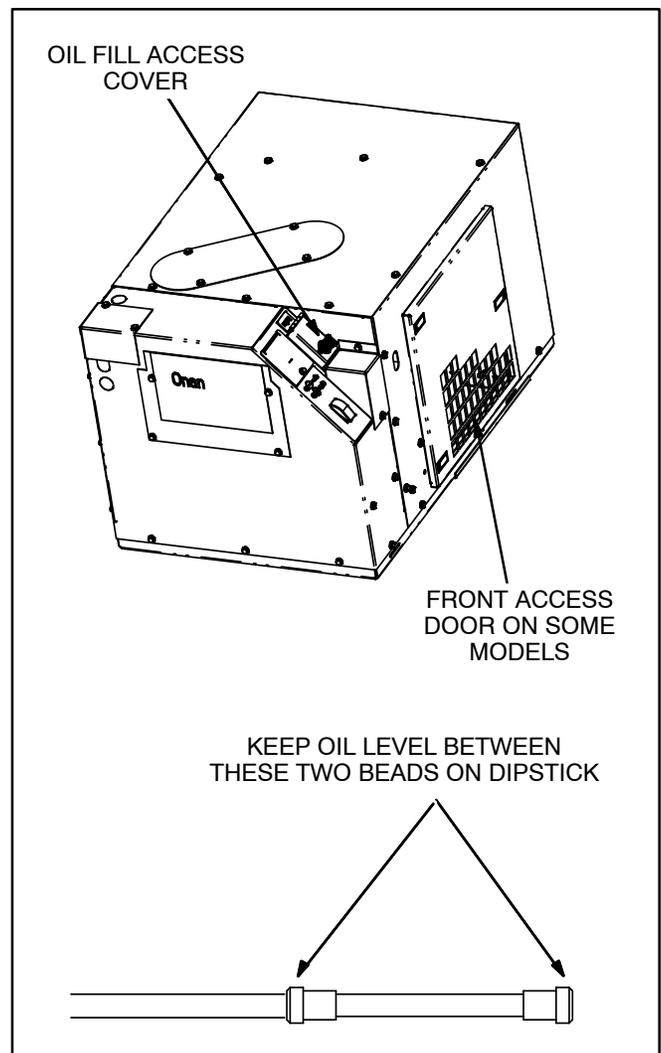
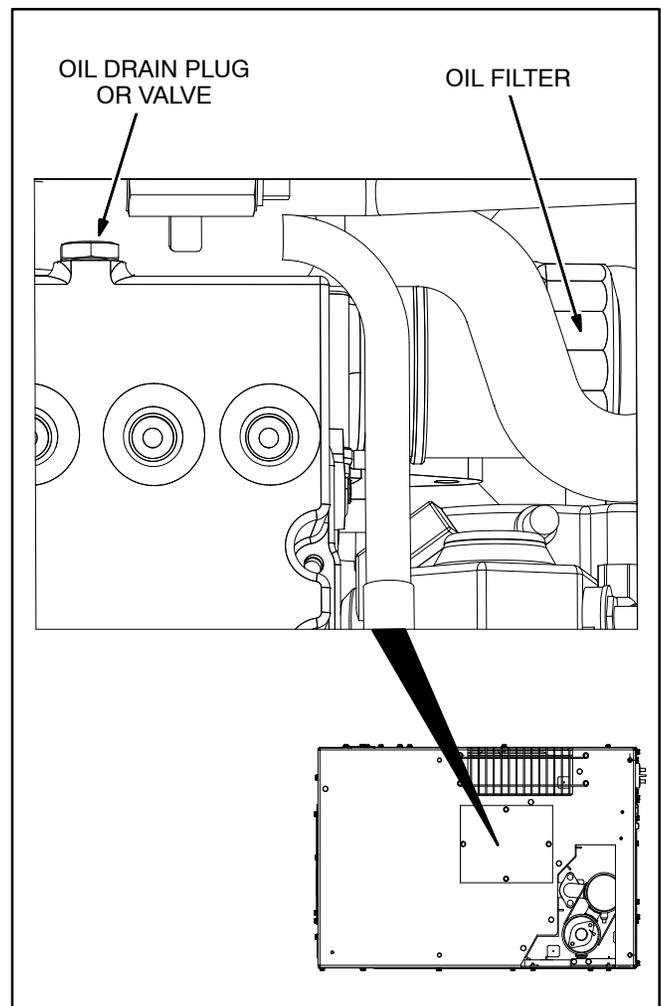
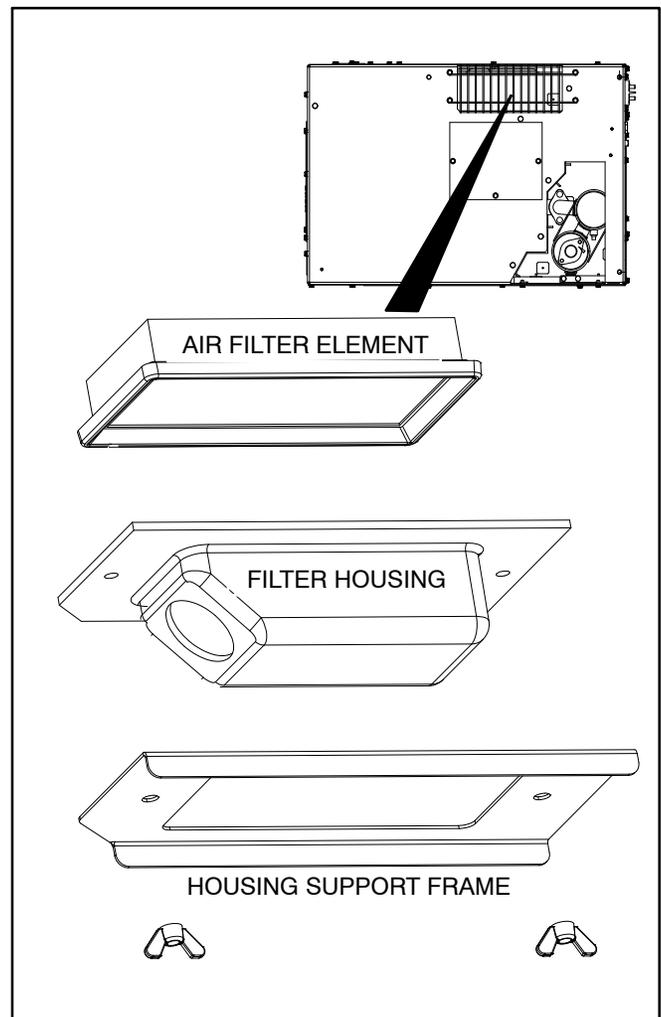
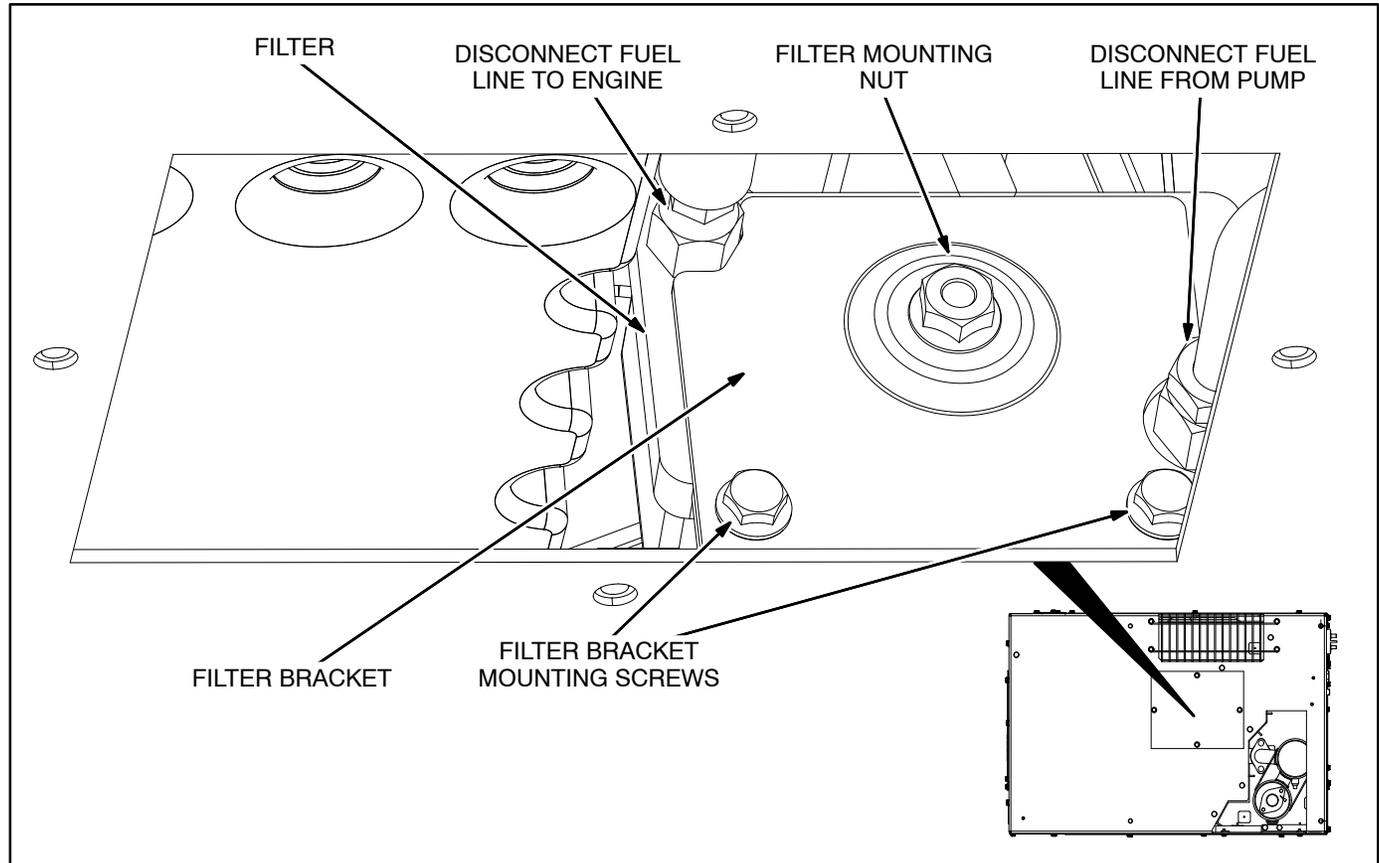

FIGURE 3-1. OIL FILL NECK AND DIPSTICK
FIGURE 3-2. OIL DRAIN PLUG AND OIL FILTER
FIGURE 3-3. AIR FILTER
FIGURE 3-5. FUEL FILTER
1. Open the Oil Fill Access Cover to locate the dipstick and oil fill location (Figure 3-1). Twist the dipstick cap approximately 1/4 turn counter-clockwise and pull to remove the dipstick from the Oil Fill Tube. Wipe off the dipstick and insert it back into the Oil Fill Tube. Remove the dipstick again and check the oil level on the dipstick cable.
3. Depending on the installation, remove the bottom maintenance access cover (Figure 3-2) or front access door (Figure 3-1) and place a pan under the oil drain outlet.
Depending on the installation, remove the protective grille below the air filter (Figure 3-3) or the front access door (Figure 3-1). Then unscrew the two (2) wingnuts and pull away the housing support frame, housing and filter element.
See Table 3-1 for scheduled fuel filter replacement. A dirty fuel filter may be the cause of a failure to start. Depending on the installation, the fuel filter is accessible through the bottom maintenance access cover (Figure 3-5) or front access door (Figure 3-1) and inner cover.